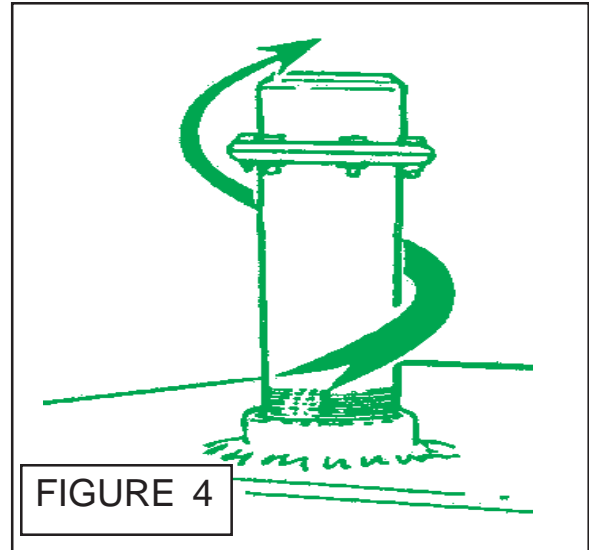

FIGURE 4
Hydraulic tank is bolt on assembly, hydraulic tank houses return filters (figure 4 & 6), oil level sight glass and two return oil pressure gauges. The filler cap is a breather type. The center section returns through the back filter and the wings return through the front filter. Each filter will have a return pressure gauge (figure 4 & 5).
2. Remove Filler Cap. Remove Filler cap only when ready to fill hydraulic Tank with Oil. **Do Not** leave the Cap off and the system Open, always keep sytem closed when possible. Avoid any oil contamiantion (figure 4).